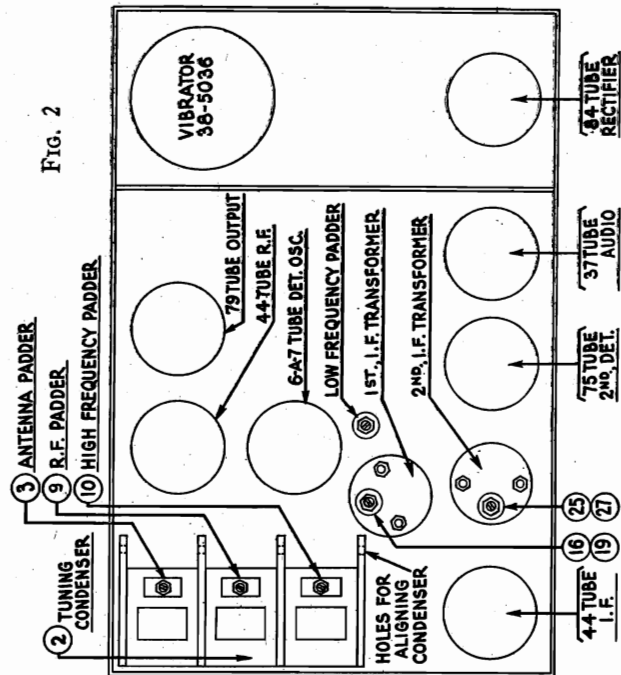

FIG. 2
Remove the speaker lid from the Receiver and disconnect the antenna lead from the Receiver. Remove the grid cap from the 6A7 tube (for location see Fig. 2).
Set up the signal generator and adjust it to exactly 260 K. C. Connect the generator lead to the grid cap of the 6A7 tube, grounding the shield. (See Fig. 2.) The output meter must be connected by means of an adapter to the small prong of the speaker plug and to the chassis.
The padders ② and ③ are adjusted first (Figs. 2 and 3). Turn the adjusting screw ② all the way in. A metal screw driver can be used for this. Then, with generator attenuator set so there is approximately half-scale reading, adjust the nut ③ with a fibre wrench for the maximum reading on the output meter.
There are four holes in line, one in each of the sections of the tuning condenser housing. (See Fig. 2.) Place a nail of the size that fits snugly through the holes and then turn the condenser plates out of mesh until they strike against the nail.
At the factory the receiver is carefully adjusted and aligned, and precautions are taken to maintain the accuracy of the adjustment. However, should the receiver ever require realignment the following procedure should be observed. In Fig. 2 the location and description of the various alignment capacitors are clearly illustrated. An External modulated oscillator with a frequency range sufficient to cover the requirements of the receiver should be used for obtaining best results.
Rotate the "FREQUENCY SELECTOR DIAL" to a position where the "shadow line indicator" of the dial light is in a position coincident with the 1400 kilocycle calibration of the dial scale. Adjust the oscillator trimmer of the broadcast range (See Fig. 2) until resonance is indicated by maximum audio response in the speaker output circuit. Proceed next to the 1st Detector alignment capacitor which is located on the top of the gang condenser section of that circuit. The same procedure is followed in aligning the R.F. amplifier and the Pre-selector stages, the alignment capacitors of which are located also on top of their respective sections of the gang condenser. The correct positions are clearly illustrated in Fig. 2.